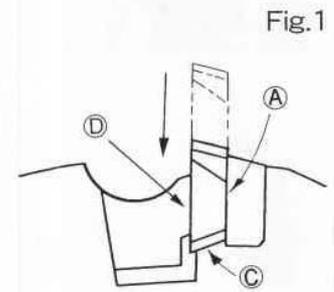

Fig.1
(1) Cleaning
*Using blasts of air, blow off dust particles from the face of insert mount A, B, C. (See Fig 1~2), or wipe off insert with pieces of cloth.
(2) Mounting of inserts
*As shown in Fig. 1, slide the insert down along the sheet face A.